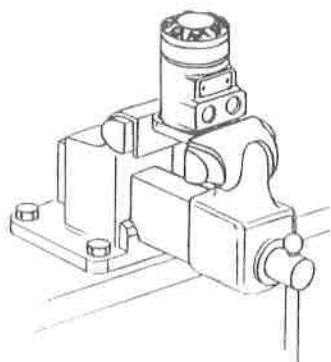

Figure 1
1. Place motor in vise and clamp across edge of flange with output shaft down. When clamping, use protective device on vise such as special soft jaws, pieces of hard rubber or board (see Figure 1).